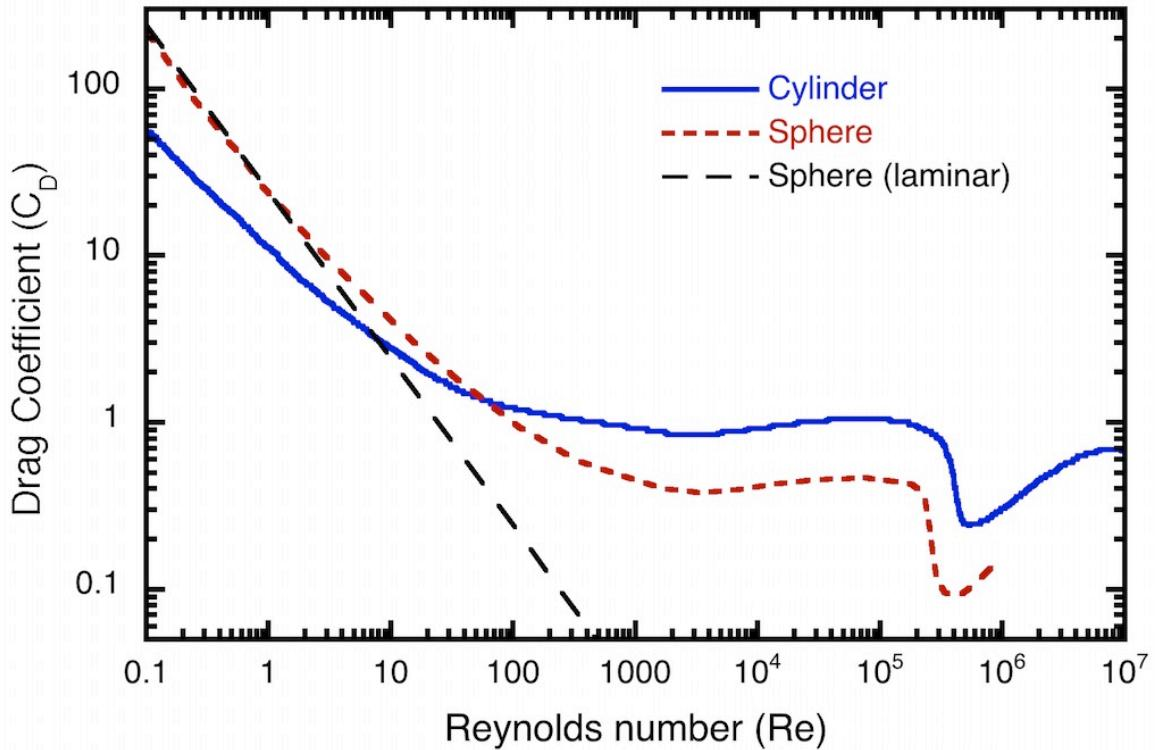

Figure 20. Drag coefficients as a function of Reynolds number for spheres and cylinders.
The above terminal velocity is **only valid for laminar flow**. For turbulent flow, there is no simple analytical relationship between Re_d and C_D , so one must resort to experiments or detailed (and difficult) computer simulations of the Navier-Stokes equations. Figure 20 shows a comparison of the actual C_D vs. Re_d with that predicted by the low- Re_d laminar-flow model. It can be seen that the relation for laminar flow is reasonable up to about $Re_d \approx 3$ but at higher Re_d , the flow is NOT laminar and thus the laminar flow result $C_D = 24/Re_d$ does not apply. As one would expect, C_D is higher with turbulent flow. Note also that at $Re_d \approx 3 \times 10^5$ there is a sudden decrease in C_D .
Please note: both axes in Figure 20 are plotted on a logarithmic scale in order to span many decades of Re_d and C_D . The “distance” between numbers A and B on a logarithmic scale is calculated based on $\log_{10}(A) - \log_{10}(B) = \log_{10}(A/B)$, whereas the “distance” between A and B on a linear scale is calculated based simply on $A - B$. So the tick marks between (for example) 1 and 10 are 2, 3, … 9 but they are not evenly spaced because the “distance” (in logarithmic space) between 1 and 2 is $2/1 = 2$ and the “logarithmic distance” is $\log_{10}(2/1) = \log_{10}(2) = 0.301$ (or 30.1% of the distance between 1 and 10) whereas the “logarithmic distance” between 8 and 9 is much less, i.e., $\log_{10}(9/8) = \log_{10}(1.125) = 0.051$ (or 5.1% of the distance between 1 and 10). Another point to note is that a straight line on a plot with logarithmic scales on both axes does not represent a linear relation such as $y = mx + b$, but rather it indicates a power-law relation, i.e. $y = mx^b$. For laminar flow around spheres, the relationship is $C_D = 24/Re_d$, that is $m = 24$ and $b = -1$, thus the slope of the plot for this special case is -1.
A similar C_D vs. Re_d plot for cylinders in cross-flow (i.e. with the flow in the direction perpendicular to the axis of the cylinder) is also shown in Figure 20, but for cylinders there is no simple analytical relationship analogous to the $C_D = 24/Re_d$ result for laminar flow over spheres. Note again the sudden decrease in C_D at almost the same Re_d as for spheres. Note that a 3 cm golf ball hit at 70 m/s in air has a Reynolds number of $(70 \text{ m/s})(0.03 \text{ m})/(1.5 \times 10^{-5} \text{ m}^2/\text{s}) = 1.4 \times 10^5$. Dimpling the golf ball decreases the transition Re_d somewhat, and thus enables a lower C_D (actually the dimpling also increases the lift due to the backspin on the ball, but that's beyond our scope.)
- 3) Look up her drag coefficient in Figure 20.
- 3) From Figure 20, $C_D \approx 0.4$